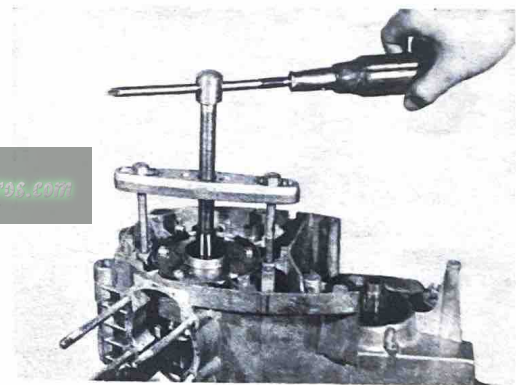

Fig. 4-13-3
- b. Split the case R from the case L with the crankcase disassembly tool. (Fig. 4-13-3)